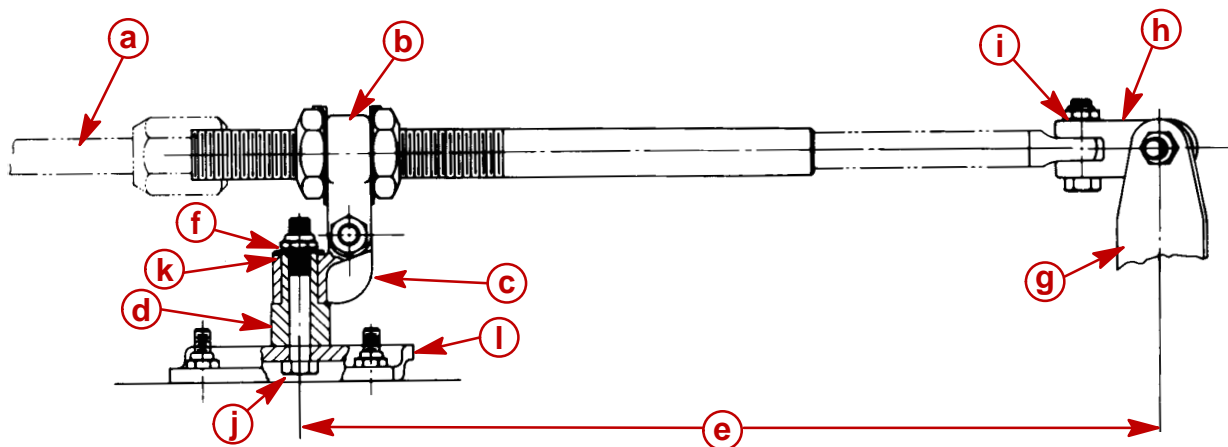
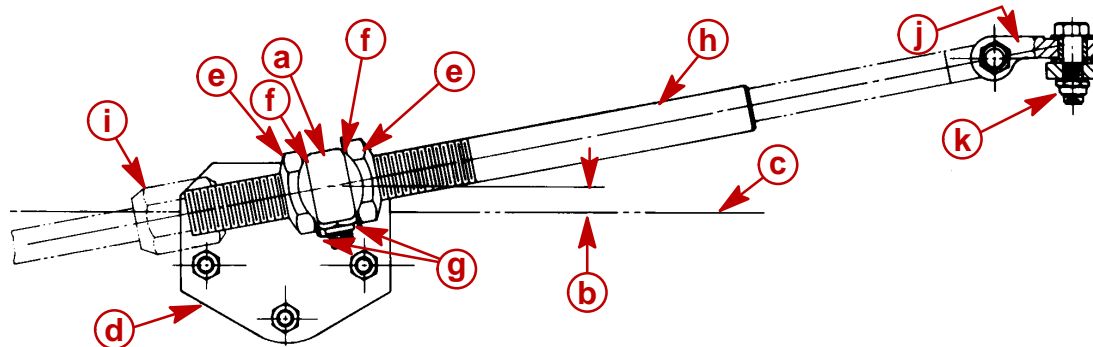

Figure 1
Figure 3
1. Lubricate both holes in pivot block (Figure 1) with 2-4-C Marine Lubricant with Teflon.
2. Place pivot block on pivot spacer and secure to transom bracket with 3/8 in. x 2-1/2 in. (9.5 mm x 63.5 mm) bolt, flat washer and locknut, as shown in Figure 1. Torque locknut to 20 lb. ft. (27 Nm).
- Place Ride-Guide yoke on pivot block and secure with 7/16 in. x 1-3/4 in. (11.1 mm x 44.5 mm) bolt and locknut, as shown in Figures 1 and 2. Torque locknut to 10 lb. ft. (13.5 Nm), **then back off 1/4-turn.**
- Install one cable tube jam nut onto steering cable tube. Place tab washer over Ride-Guide yoke, then insert cable tube through tab washer and yoke. Install second cable tube jam nut onto cable tube but do not tighten at this time. (Figure 3)
- Determine centerline of outboard, then measure 15 in. (38.1 cm) over from this centerline and draw a vertical line on transom. (Figure 1)
- b. Position attaching kit on transom so that **transom bracket is centered on the 15 in. (38.1 mm)** (Figure 1) at a height where the **center of Ride-Guide yoke is even with, or not more than 1/2 in. (12.7 mm)** above top edge of transom. (Figure 3)
2. Install steering cable through steering cable tube and secure to cable tube with cable attaching nut. (Figure 3) Do not tighten cable attaching nut at this time.
4. Adjust 2 large jam nuts on cable tube of attaching kit, so that **steering wheel** is in normal straight-driving position with outboard in straight-running position. Torque each jam nut to 35 lb. ft. (47.5 Nm), then bend a side of tab washer against flat of each jam nut. (Figure 3)
5. Torque Ride-Guide cable attaching nut (which secures cable to guide tube) to 35 lb. ft. (47.5 Nm). (Figure 3)
4. Check steering system fasteners (at intervals specified, preceding) to be sure that they are torqued to correct specifications. (Figures 1, 2 and 3)